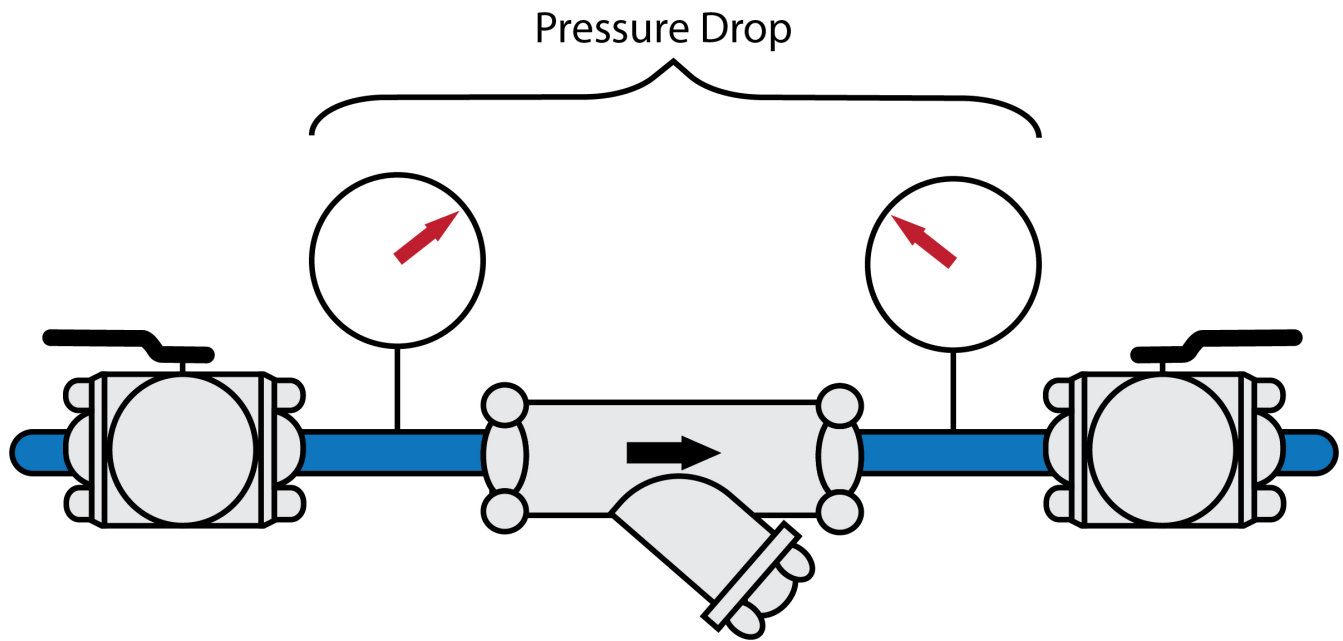

Figure 33 Monitored strainer pressure drop. (Caleffi, idronics™, 2014 [modified]). Caleffi S.p.A. All rights reserved. Used with permission.
Basket strainers, also known as Y-strainers (Figure 33), trap dirt within a mesh basket made of stainless steel or brass. A strainer should be installed just upstream of the pump in order to protect the pump. It is important to maintain the strainer so there is not an excessive accumulation of debris on the inside the strainers basket, which will restrict flow. The strainer normally has a tapping with a plug, or a blow-down valve can be installed to allow for easier cleaning. A blowdown is a drain point used to flush out sediment captured in the strainer.
- **Figure 33** Monitored strainer pressure drop [Figure 3-14, modified] is by Caleffi Hydronic Solutions (2014, p. 20) in idronics™ and is used with permission.